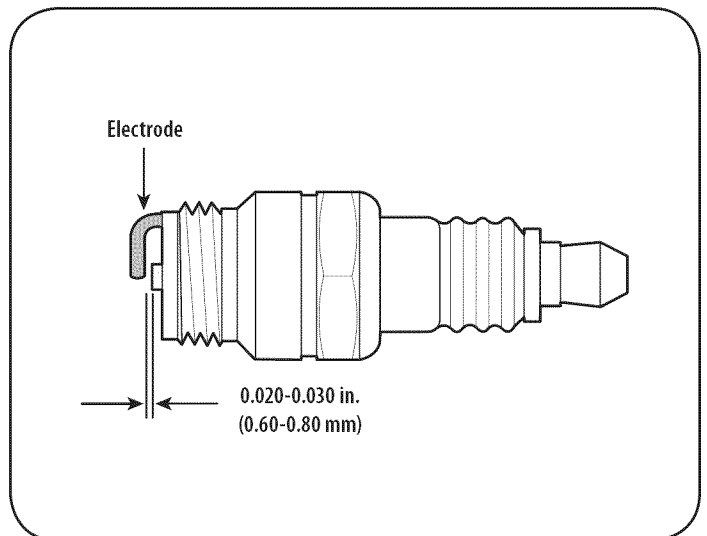

Figure 16
3. Measure the plug gap with a feeler gauge. Correct as necessary by bending side electrode. See Figure 16. The gap should be set to 0.020-0.030 inches (0.60-0.80 mm).